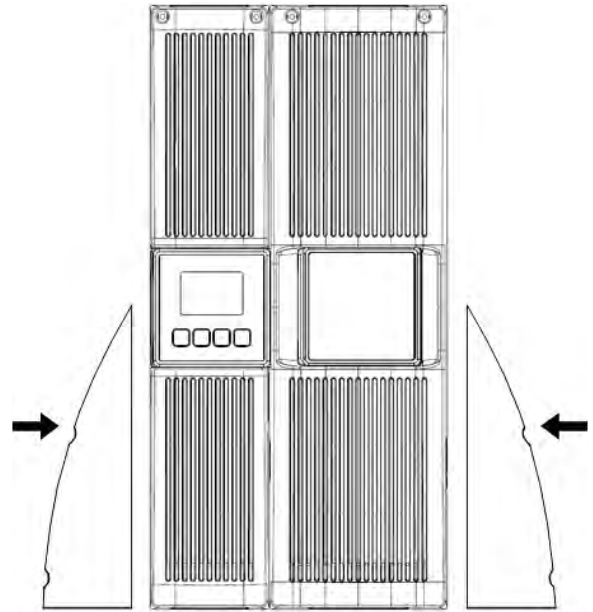

Figure 7: Support positioning
3. Screw the supports to the sides of the unit as shown in Figure 7.